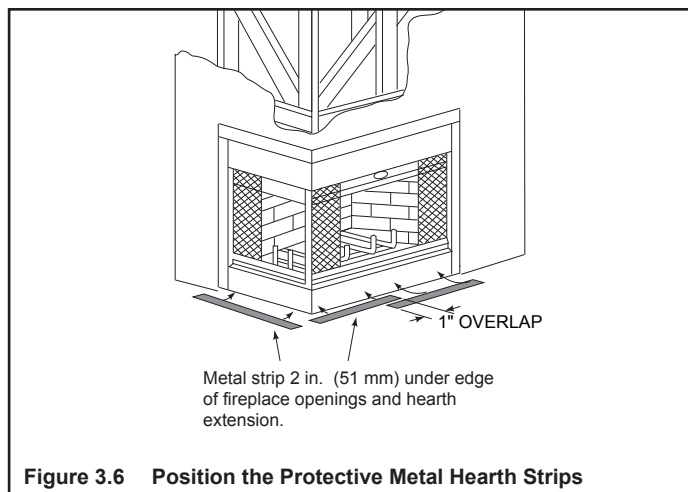

Figure 3.6 Position the Protective Metal Hearth Strips
- Metal strips must extend beyond the front and sides of the fireplace opening by at least 2 in. (51 mm), Figure 3.6).
- Protect the front of a platform elevated above the hearth extension with metal strips (not included with fireplace) per Figure 3.6. See Section 7 for hearth extension instructions.